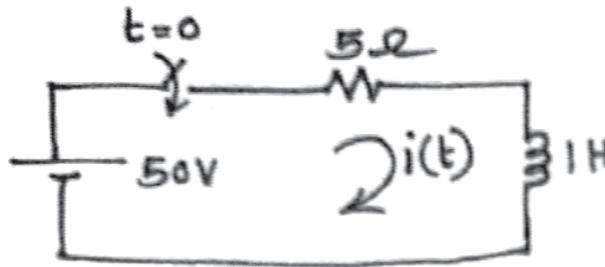

Fig.3
b) In the network shown in Fig. 3. switch is closed at  $t=0$ . Assume initial current of inductor to be zero. Find the values of [6]